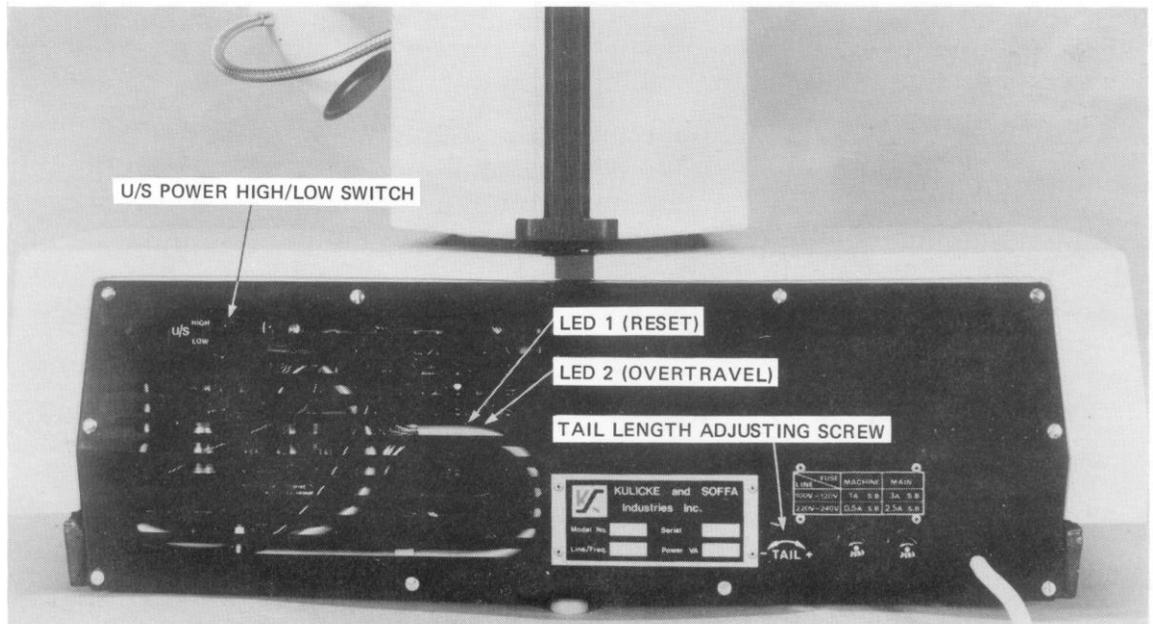

FIG. 4-4 BASE - REAR VIEW
4.1.4 BASE BACK COVER (Fig 4-4) controls ultrasonic power range and indicates RESET and OVERTRAVEL positions.